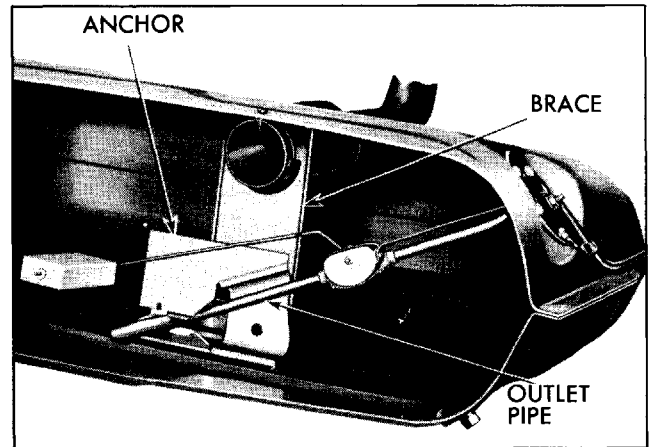

Fig. 12-72 Fuel Gauge Tank Unit Installed in Tank
c. Push the unit straight in against the tank, engaging the horizontal portion of the outlet pipe in the anchor as shown in Fig. 12-72. Install attaching screws and tighten securely. (If unit is not engaged in anchor, the mounting flange will be held away from the tank on the left side.) **NOTE:** Always check the fuel indication of panel unit after replacing tank unit. If four to five gallons of gasoline are required before the pointer begins to move, the outlet pipe is not properly positioned in the anchor.